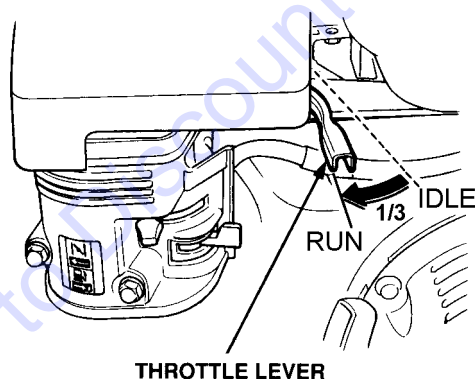

Figure 13. Throttle Lever (1/3 Start Position)
2. Move the throttle lever (Figure 13) away from the slow position, about 1/3 of the way toward the fast position.